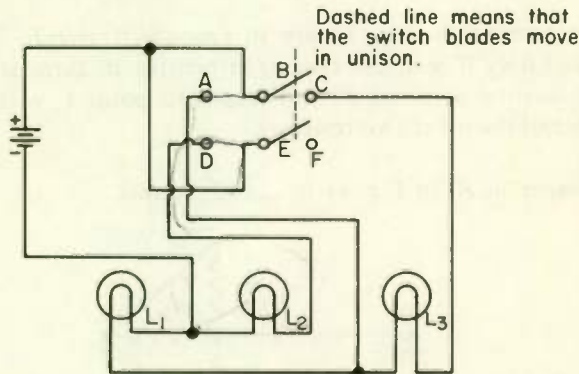

Fig. 13
5. The switch in Fig. 13 is called a double-pole double-throw (DPDT) switch. It has two switch blades B and E , which always move together. When the switch is thrown to the right, blade B makes an electrical connection with contact C and blade E makes a connection with contact F .